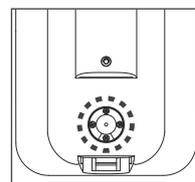

FIGURE 6:
4. Feed the speaker wires from the bracket into the wire entry grommet on the back of the speaker, through the wire tunnel and out the opening on the speaker's front panel (see figure 6).